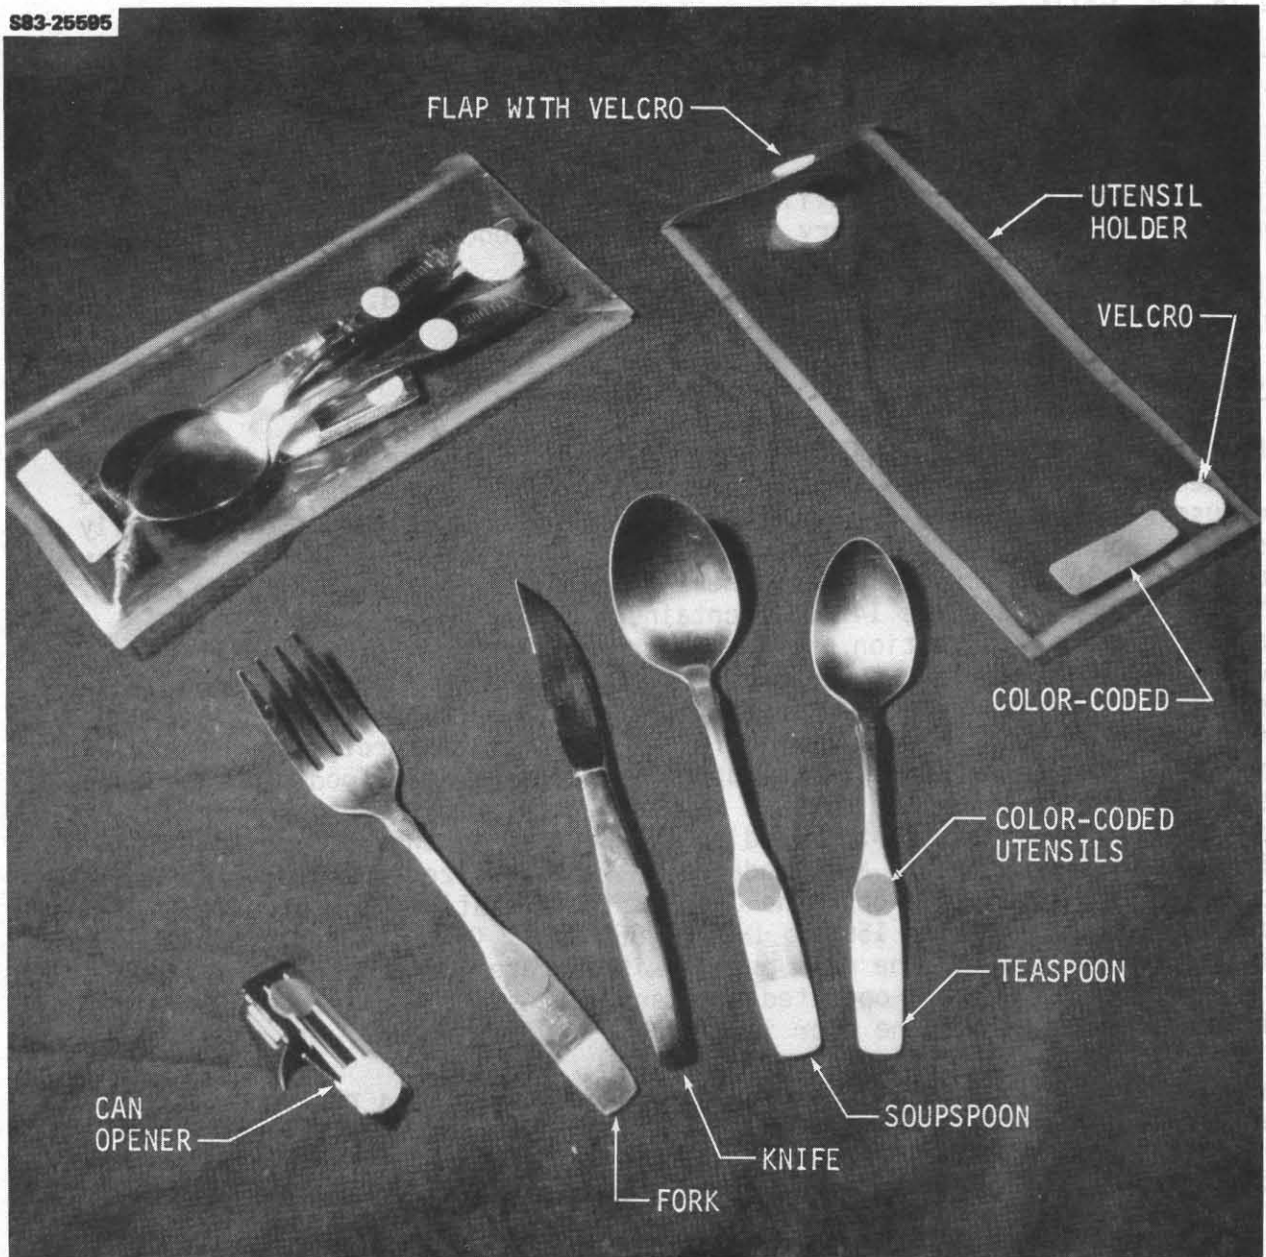

Figure 3.16-10.- Utensil holder and utensils.
- Color-coded utensils, including a knife, two spoons (soup spoon and teaspoon), a fork, and a can opener are provided for each crewmember. The utensils are stowed in a reusable plastic bag (fig. 3.16-10). The utensils are magnetized to adhere to the magnetic strips on the food trays.
The food tray (fig. 3.16-3) is a clear anodized aluminum sheet with two cutouts, one designed to hold up to three rehydratable food packages and the other provided with rubber strips to adapt various-sized food packages and cans. The tray has a number of spring clips and two 3/4 in. wide binder clips to retain condiment packets, wipes, etc. Two magnetic strips hold the stainless steel eating utensils (fig. 3.16-10). The bottom of the tray has Velcro strips that are used to hold the trays against the galley/locker door during meal preparation and to hold the trays in place for storage by stacking the trays on top of each other (fig. 3.16-1). In addition, two Velcro straps on the bottom of the tray provide the capability of restraining the food tray to the crewmember's leg for dining purposes (fig. 3.16-3). Finally, the trays are color-coded with color dots for each crewmember.
The rehydrator station (fig. 3.16-10) is used to rehydrate measured amounts of hot or cold water at 50 ± 5°C or 100 ± 5°F (10 or 10°C) into the rehydrable food container. The mechanism used by the crewmember is the rehydrator and the cup-rehydrator. The needle is a small diameter stainless steel tube used to penetrate the rubber septum of the rehydrable food container and to discharge the water from the system. The cup rehydrator is basically a drawer with a cutter that automatically rehydrates the food container with the needle. The rehydrator is attached to the